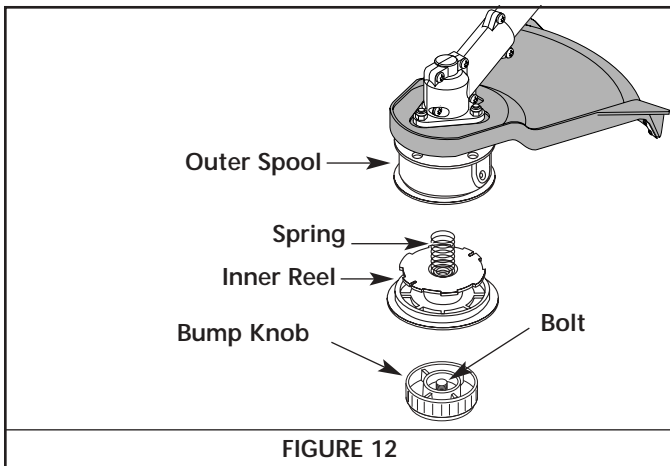

FIGURE 12
2. Remove the inner reel from the outer spool. See Figure 12.
3. Remove the spring from the inner reel. See Figure 12.
- Hold the outer spool with one hand and unscrew the Bump Knob clockwise. See Figure 12. Inspect the bolt inside the Bump Knob to make sure it moves freely. Replace the Bump Knob if damaged.
- Remove the old inner reel from the outer spool. See Figure 12.
- Remove the spring from the old inner reel. See Figure 12.